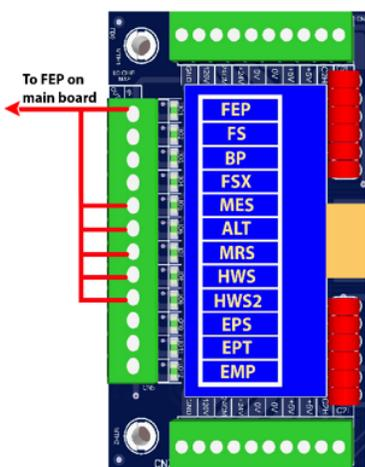

Figure 1: Typical I/O Expansion Board
- 1.4 Add temporary connections on the GALX-1102 Main I/O Board and Expansion I/O boards as shown in Figures 1, 2, 3, and 4.